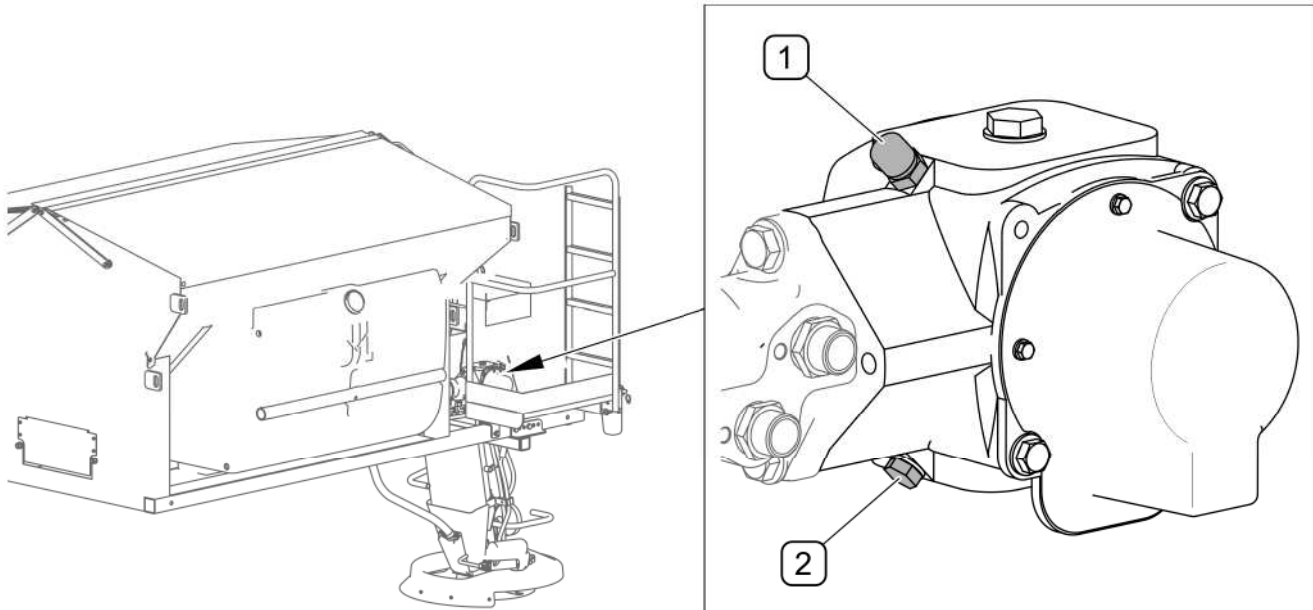

FIG. 5.3 Changing oil in the belt conveyor drive transmission
- unscrew filler plug (1) (FIG. 5.3)
- unscrew drain plug (2) and drain oil to previously prepared basin,
- tighten drain plug (2) and pour new oil through filler plug opening (1)
- check that air vent in filler plug (1) is not blocked, if necessary clean the air vent
- tighten drain plug (2).